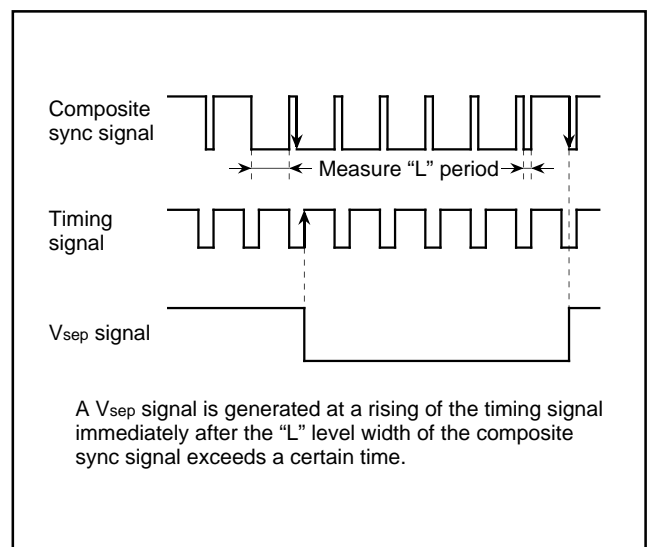

Fig. 25. Vsep generating timing (method 2)
- Method 2 The "L" level width of the composite sync signal is measured. If this width exceeds a certain time, it is detected whether a falling of the composite sync signal exists or not in the "L" level period of the timing signal immediately after this "L" level. If a falling exists, a Vsep signal is generated in synchronization with the rising of the timing signal (refer to Figure 25).
Figure 25 shows a Vsep generating timing. The timing signal shown in the figure is generated from the reference clock which the timing generating circuit outputs.